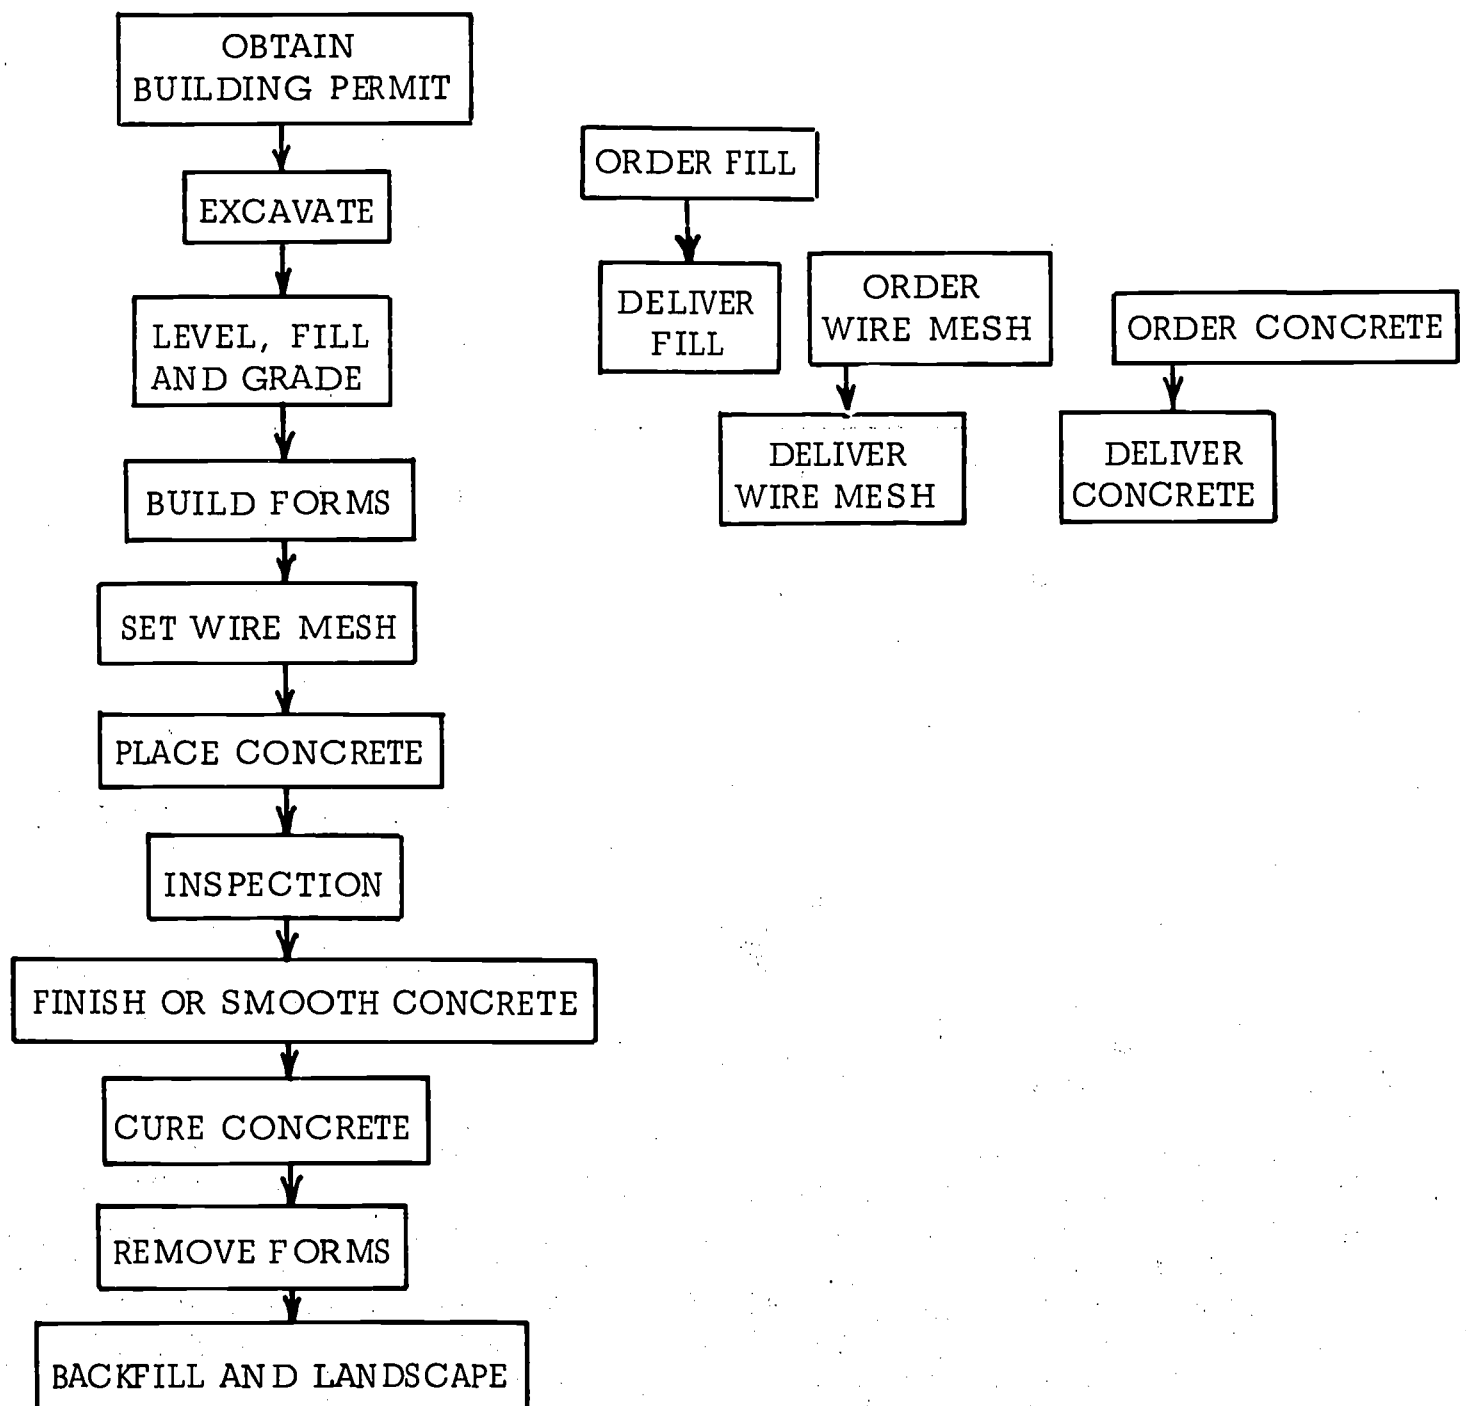

Fig. 22-2. Critical Path Method for Scheduling Tasks
1. Fig. 22-2 shows the Critical Path Method for scheduling construction of a concrete patio.